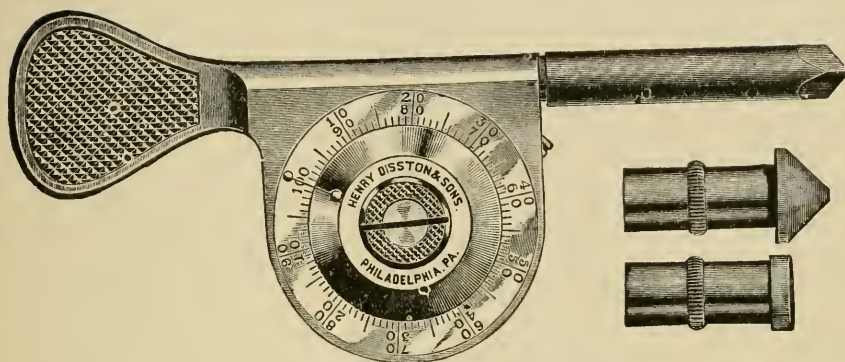

FIG. 86—SPEED INDICATOR
2. Measure the drive and driven pulleys on the saw table and find the R. P. M. of the saw arbor? What is the surface speed each for a 10" and a 12" saw when run at this speed? In using speed indicator, Fig. 86, what do you find to be the R. P. M. of the saw arbor?